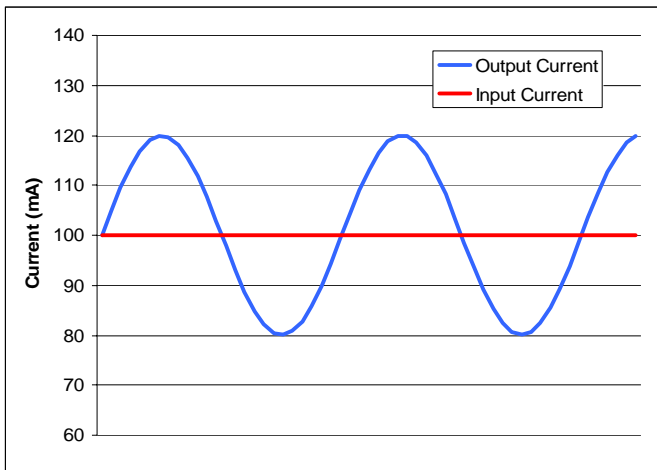

Figure 1: Modulated Current Output
4. As an example if you wanted to modulate the LDC-3724B from 120mA to 80mA at 100 kHz. You will need to set the LDC-3724B to  $I_{HBW}$  with a 100mA output current. Next set the waveform function generator to output a sine wave, at a frequency of 100 kHz with a peak to peak voltage of 1 Volt. Figure 1 shows the output that you will see on an oscilloscope.